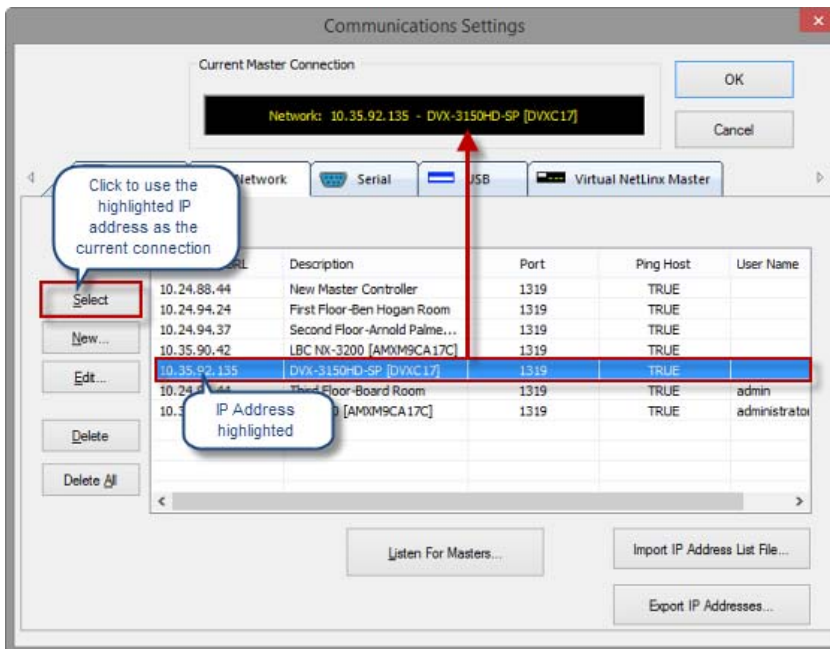

FIG. 138 Listen For Masters dialog (new Master selected)
- With the newly added Master selected, click **Select**. This updates the *Current Platform-Transport Selected* window to indicate that the newly added and selected Master is now the current communication configuration (FIG. 138).